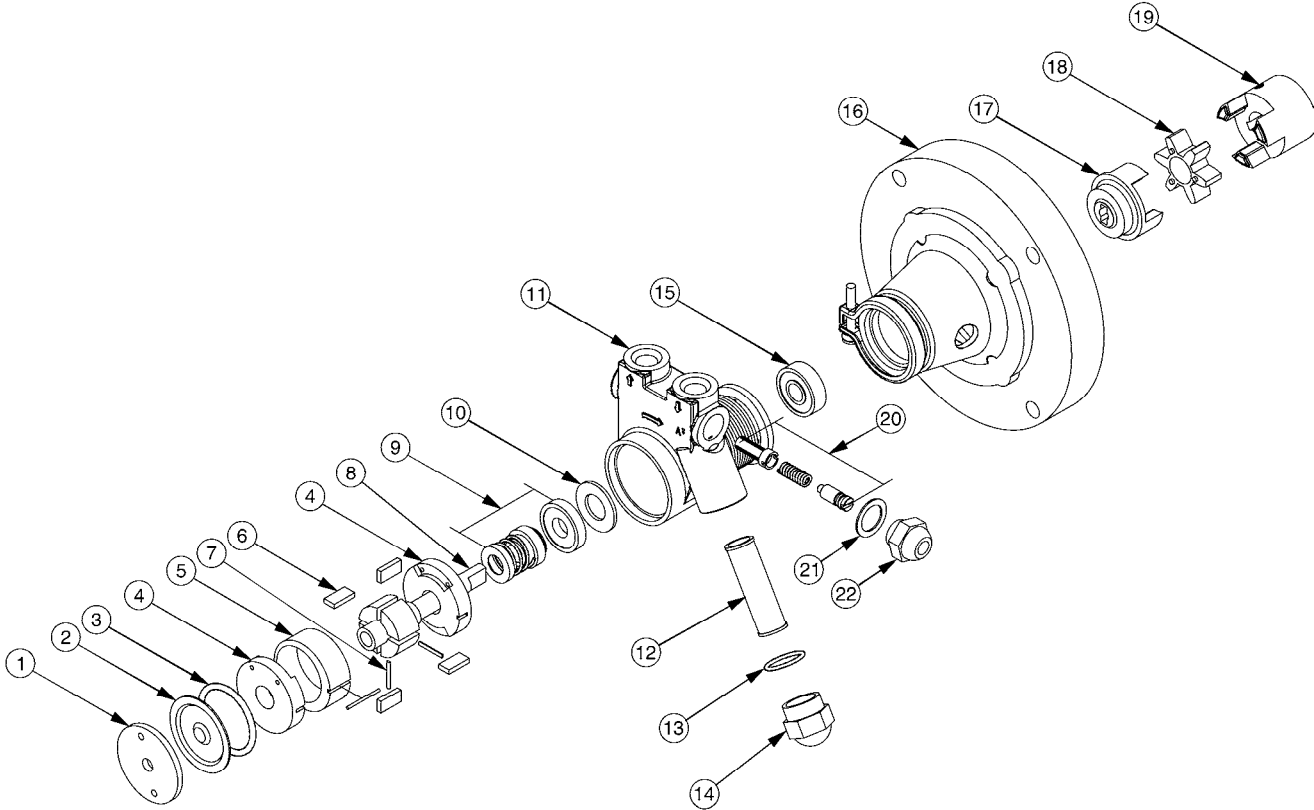

Figure 1-4. Exploded view of the Vane Pump.
- 1. Refer to Figure 1-4 to locate and identify the various components of the Vane Pump.